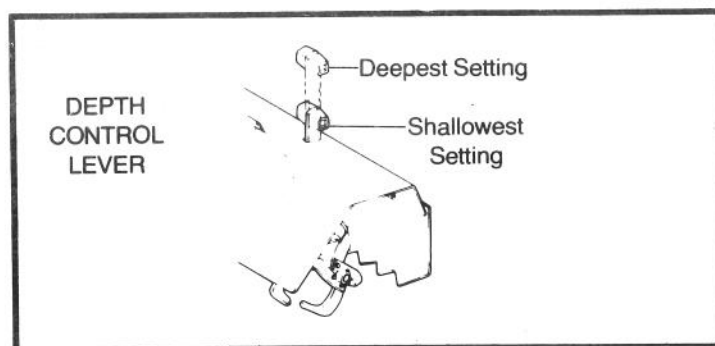
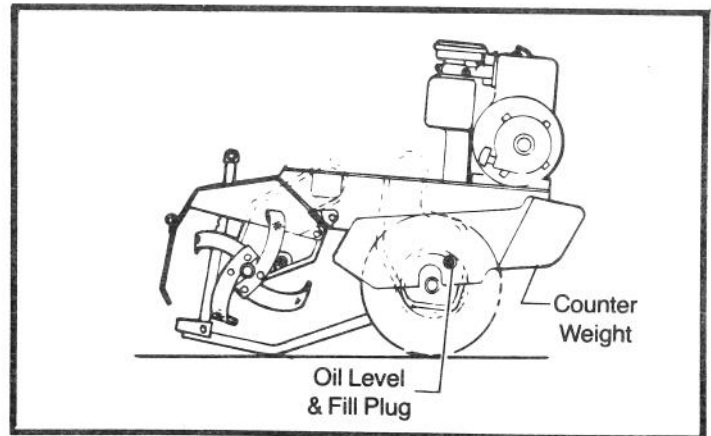

FIGURE 7
FIGURE 13
When starting a tilling operation, start with the depth control lever in the shallowest setting (Fig. 7). As you become acquainted with the soil, keep raising the control lever so that deeper tilling can be done.
To check the oil level of the wheel drive case, place the depth control lever down to the shallowest setting (Fig. 7). Remove the inspection plug on the right side of the wheel drive case (Fig. 13). Case has sufficient oil if oil is up to bottom of inspection plug hole. **NOTE:** Block tiller in a level position and remove the right wheel when checking this level. Use a socket with extension to reach through hole in counter weight to oil level and fill plug.
- A. Set depth control at the deepest setting (Fig. 7).